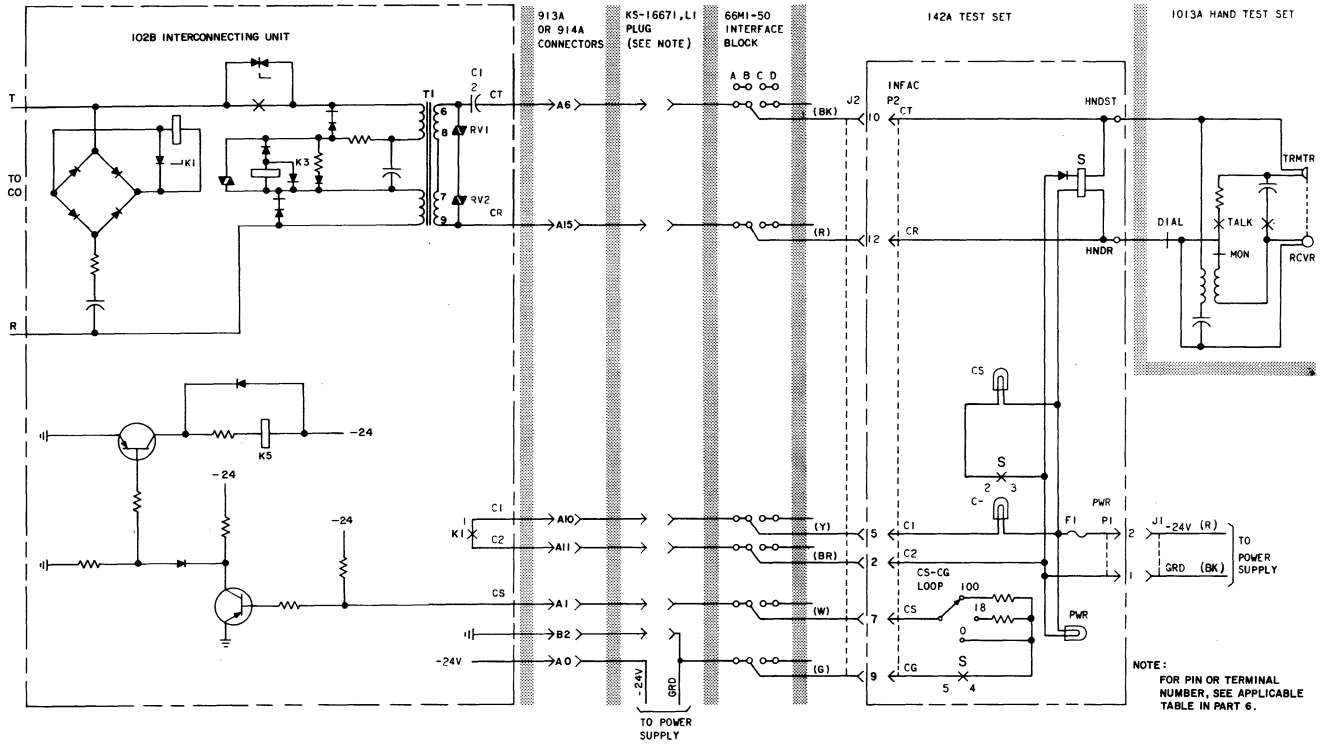

Fig. 14—Testing 102B Interconnecting Unit With 142A Test Set
**5.02** The 142A test set (see Fig. 14 and 15) should be set up as follows with the IU: